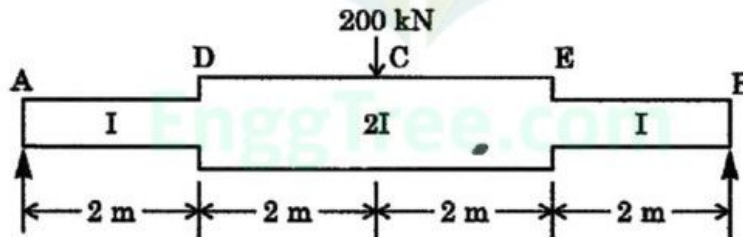

Fig. Q. 13(a)
13. (a) Using the Conjugate beam method, find the mid span deflection of the beam shown in Fig. Q. 13(a). Take  $E = 200 \text{ GPa}$  and  $I = 200 \times 10^{-4} \text{ m}^4$ .